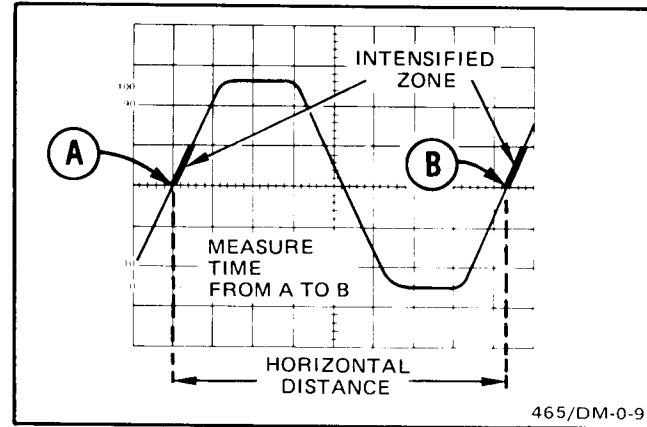

Figure 43. Time duration using delayed sweep.
6. Rotate the DELAY TIME POSITION control to move the start of the intensified zone to the second time-measurement point (see Figure 43, point B).
EXAMPLE: The time duration for one cycle (Figure 43, point A to point B) is 16.66 ms.
3. For the most accurate measurements, set the B TIME/DIV switch to the fastest sweep rate that provides a usable (visible) intensified zone. Vertically position the A trace to place the time-measurement point on the waveform at the center horizontal graticule line (see Figure 43).
4. Ensure that the B Trigger SOURCE switch is set to STARTS AFTER DELAY. Use the DELAY TIME POSITION control to move the start of the intensified zone so that it just touches the intersection of the signal and the center horizontal graticule line (see Figure 43, point A).